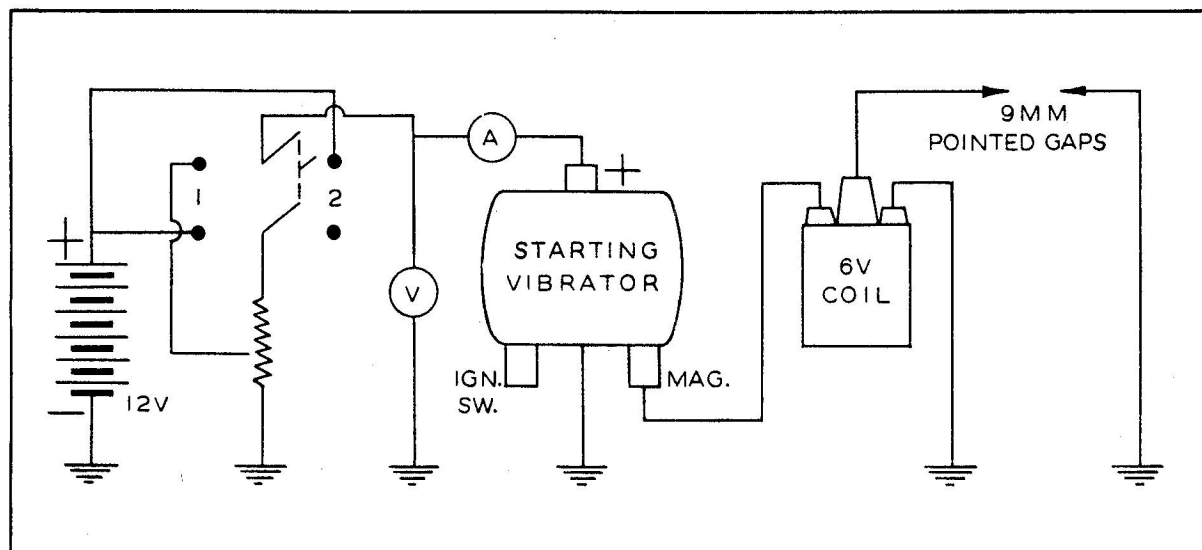

Figure 6 — Wiring Diagram — Predisassembly Test.
(1) Trip lock springs (19) on "MAG." and "IGN. SW." outlets and unscrew outlet nuts (20). A gentle pull on cables will remove insulation glands (21), terminals (22) and terminal nuts with springs (23).
(2) With screw driver, unscrew positive cable fastening screw (34) and remove positive cable attached to clip (17).
c. **PREDISASSEMBLY TEST. (See figure 6.)**
(1) At this point test the unit as follows: